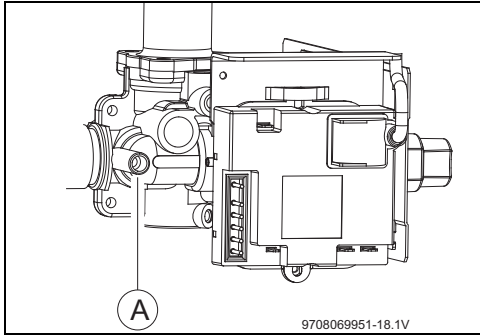

Fig. 10 Gas pressure measurement point
- ▶ Loosen the pressure test point screw on the left hand side of the gas valve (Fig. 10, [A]) and attach a manometer.